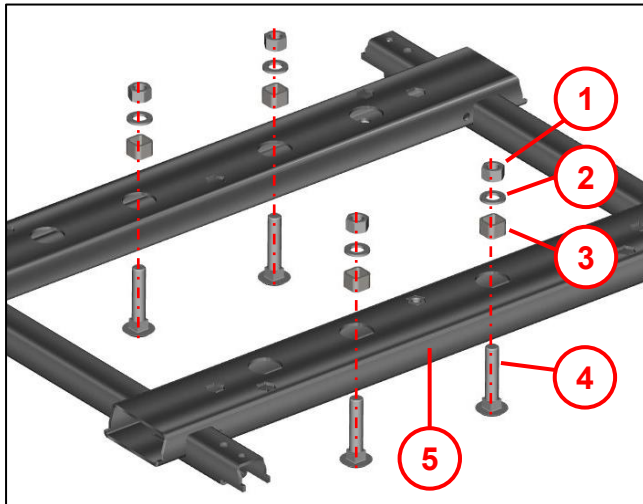
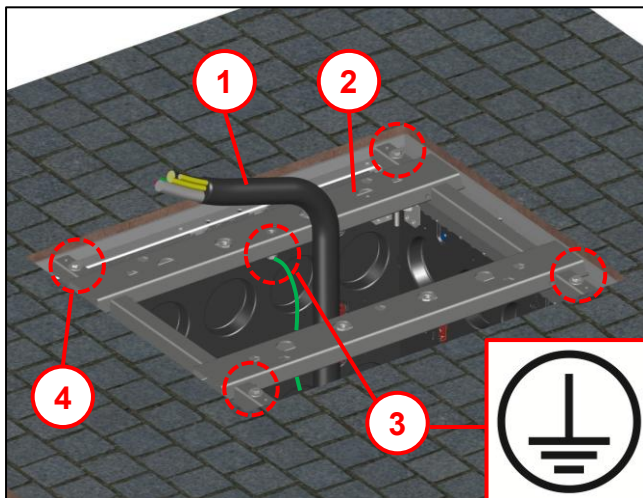

Fig. 19
Fig. 20
- Note Fig. 19 when using round-head bolts (4) with size M16 screw connections, otherwise continue with Fig. 20.
- Insert 4x M16x80 round-head bolts (4) from below into the profile frame (5).
- Fasten from above using 4x 18 mm sections of pipe (3), 4x washers (2) and 4x M16 hex nuts (1).